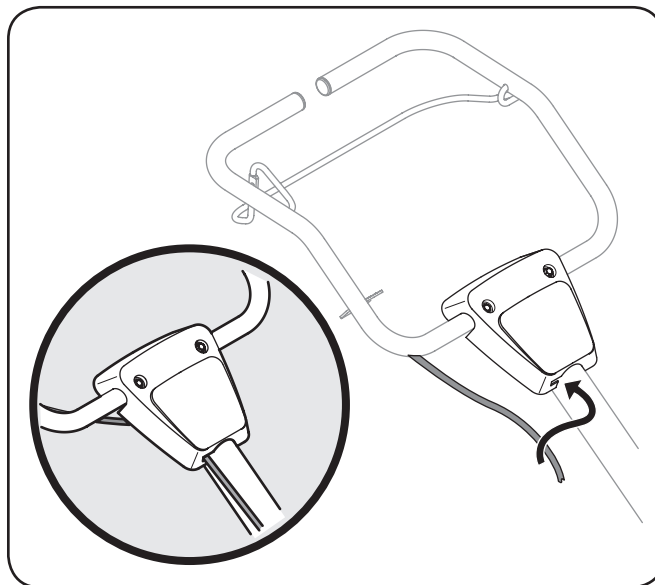

Figure 3-3
4. Clip the cable into the cable guide located on the handle assembly panel as seen in Figure 3-3.